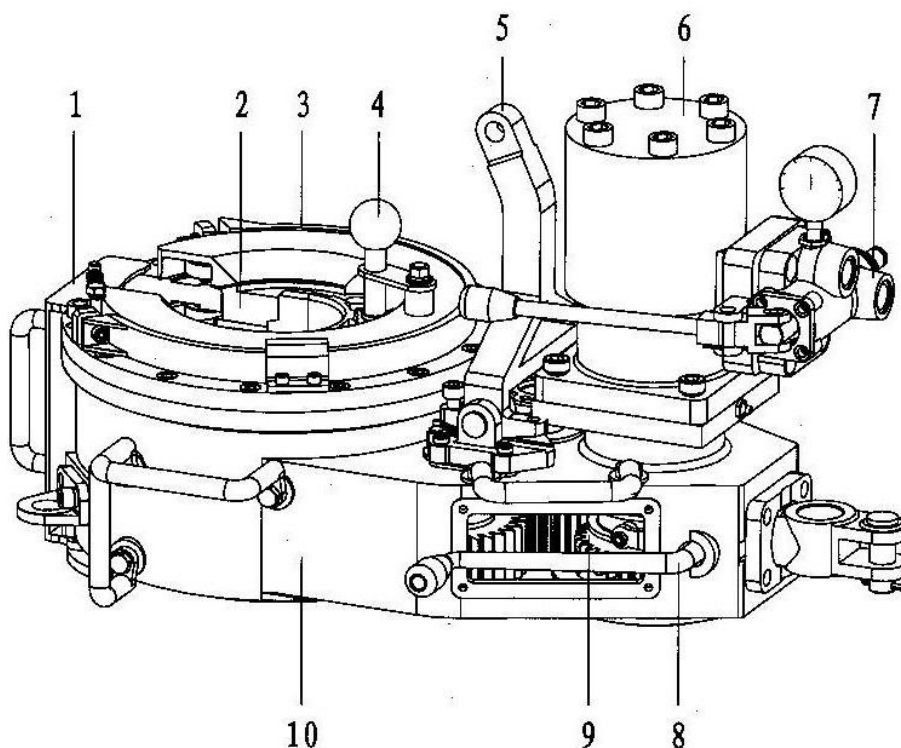

Fig.8-2
8.2 Master tong and parts list(Fig.8-2,Table 8-2)